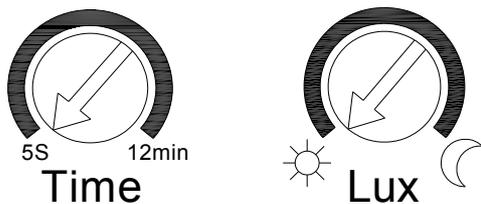

FIGURE 8
(1) TEST MODE
- Turn the LUX control and the TIME control counterclockwise to the TEST position. (FIGURE 8)